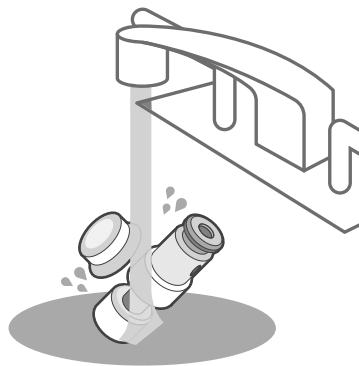

Figure 10.4
- d. Rinse both parts with clean water, and secure the float valve back onto the lid using the float valve silicone cap. **[Figure 10.4]**